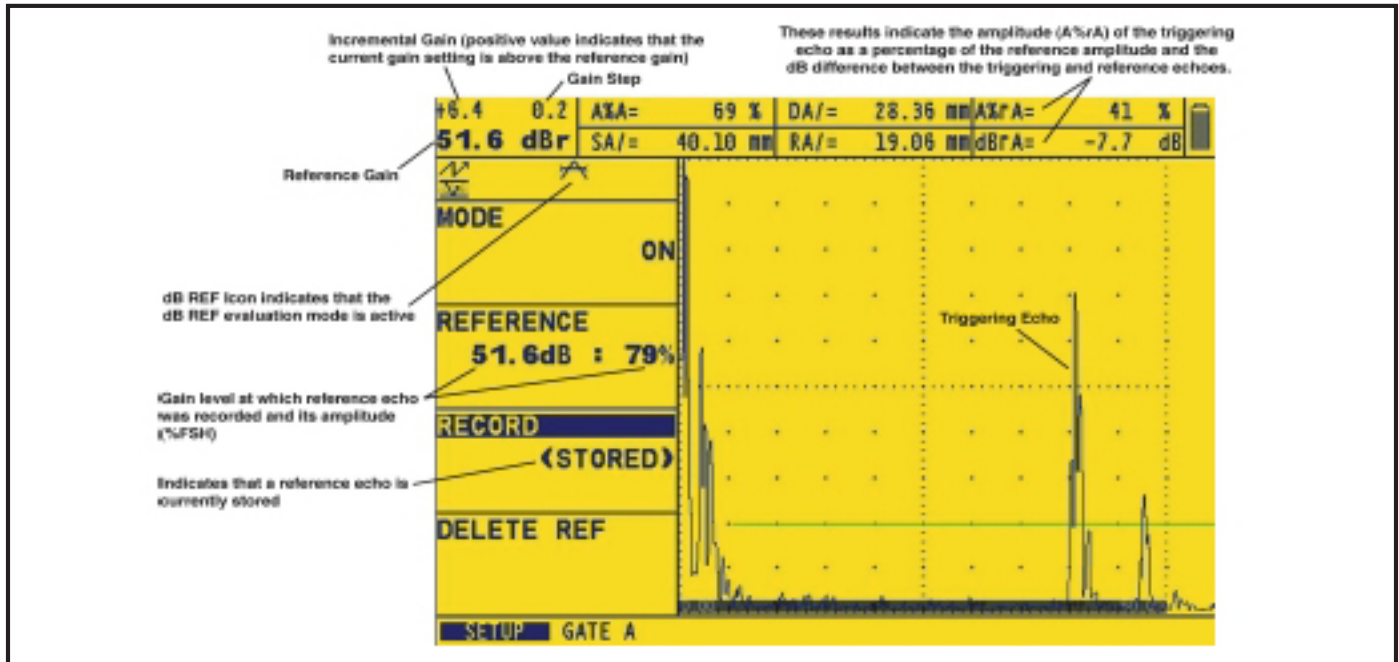

Figure 58: dB Ref capabilities
2. Locate the reference echo in A-Gate and adjust gain as required. Press  (two times) next to the RECORD function to record the reference echo. The function box will now indicate that a reference is stored (Figure 58 on the next page). Also note the following:
Also, the icon will appear. The Reference Gain remains constant throughout the dB REF session while the Incremental Gain value changes as the Gain Knob is rotated (Figure 58 on the next page).